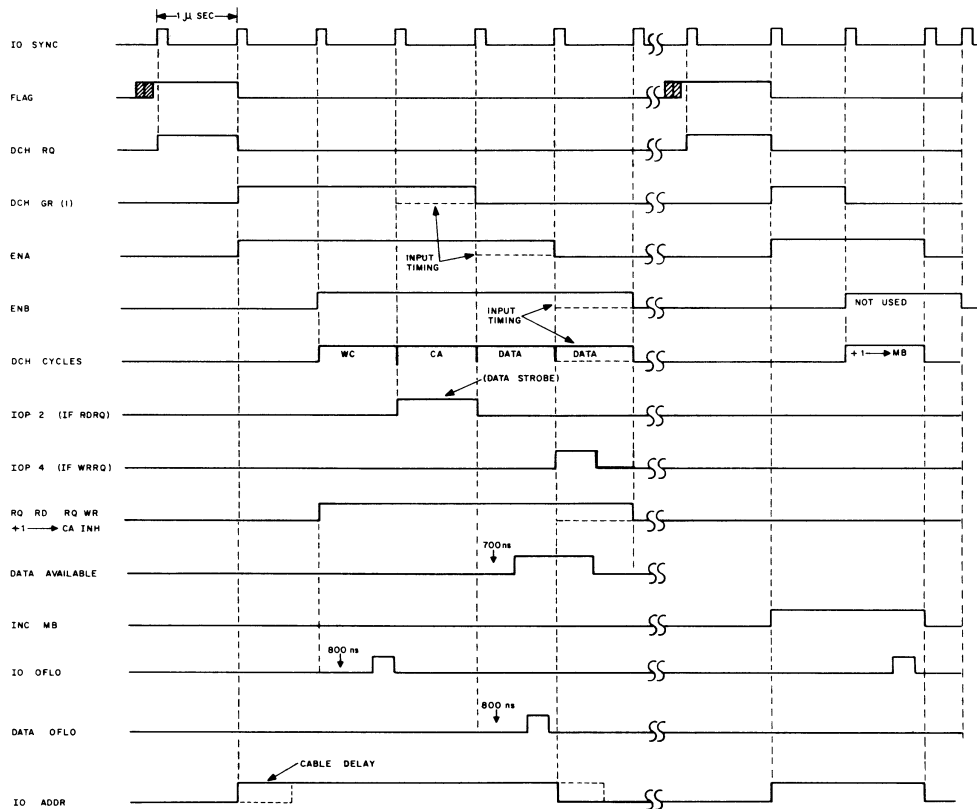

Figure 3-15 DCH IO Timing in the PDP-9
- b. A change in state of the device (not shown) sets DEVICE FLAG, which enables the RQ flag of the W104. The pulse I/O SYNC sets RQ. The computer responds with DCH GR, setting ENA and thus gating onto the I/O ADDR lines the WC address. ENA(1) enables ENB which is set with the reset I/O SYNC pulse. The SELECT line goes to ground, enabling the W109. Meanwhile, the trailing edge of DCH GR produces CLR FLG which resets the DEVICE FLG. IOP 2 is issued (for a RD RQ) and the data buffer gated onto the bus. If a WR RQ was placed, the IOP4 is issued on the reset cycle. The register is cleared on the trailing edge and loaded 1/2 μ s later by the delay. DCH timing diagrams are shown in Figure 3-15 and 3-16.
3.4.7.1 DCH Timing - Figures 3-15 and 3-16 indicate the timing of all DCH IO signals in the PDP-9 and PDP-9/L, respectively. These timing charts assume no latency after a DCH RQ is posted.